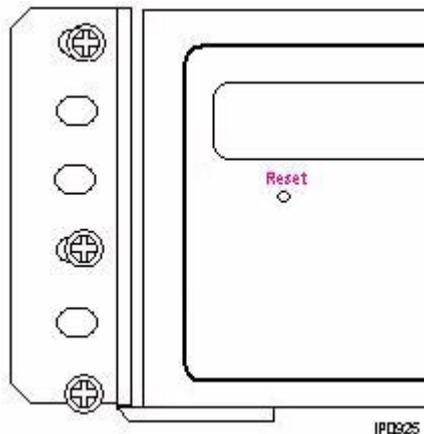

Figure 7: MXe Rack-mount Screw Placement
- loosely enough that the frame mounting bracket can be dropped into position, resting on the screw thread (see Figure 7).